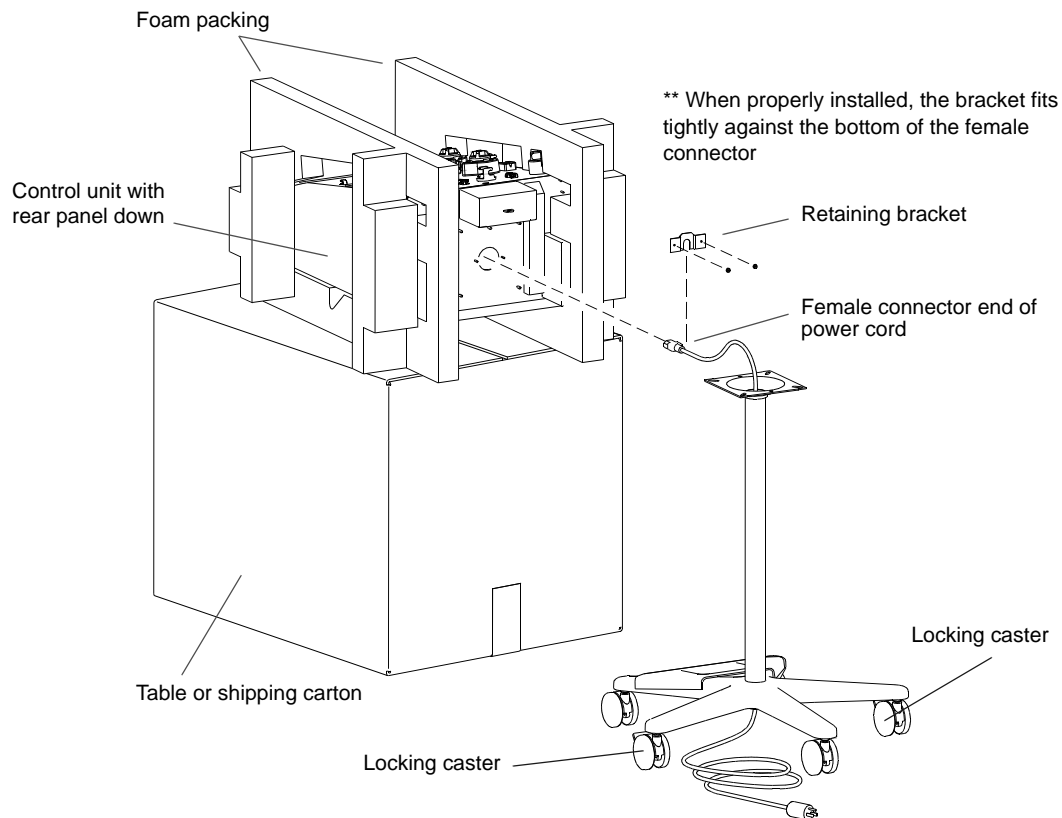

Figure 4. Connecting Power Cord to the PRISMA Control Unit
3. Place the control unit on a table on its rear panel, keeping foam packing in place (See Figure 4).
4. Select the appropriate power cord and retaining clip. With the column/ base assembly standing upright, start at the bottom and thread the female connector end of the power cord up through the column. Allow 1/2 to 1 m (2 to 3 ft) of power cord to extend out the top of the column (See Figure 4).
5. Move the column/base with the power cord close enough to the control unit to permit attaching the power cord to the bottom of the control unit. Pass the female connector end of the power cord through the hole in the center of the control unit and plug it into the receptacle inside (See Figure 4).
6. Place the retaining bracket around the power cord.** Secure the bracket to the studs on the bottom of the control unit with the #6 self-locking nuts provided. Tighten the nuts using a 5/16-inch wrench (See Figure 4).